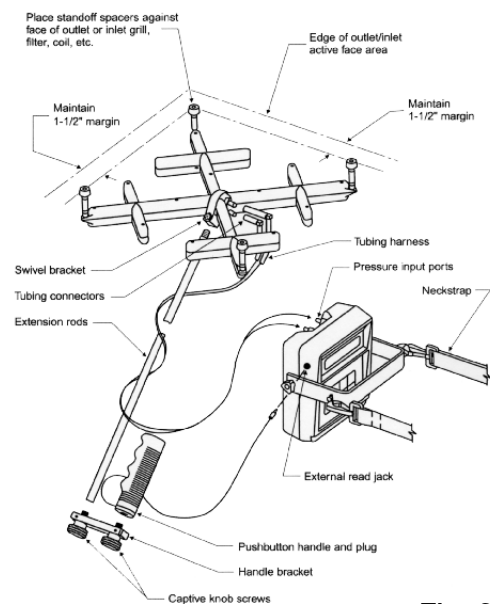

Fig. 31
- Measure the velocity of each location. A digital 2.75 in. (70 mm) rotating vane anemometer or its equivalent is suggested. The center of the anemometer should be held 2 in. (50 mm) from the face of the filters as in Fig. 31. It is helpful to make brackets to keep the anemometer at the 2 in. (50 mm) distance and parallel to the filter. Both squareness and distance are important for accuracy.